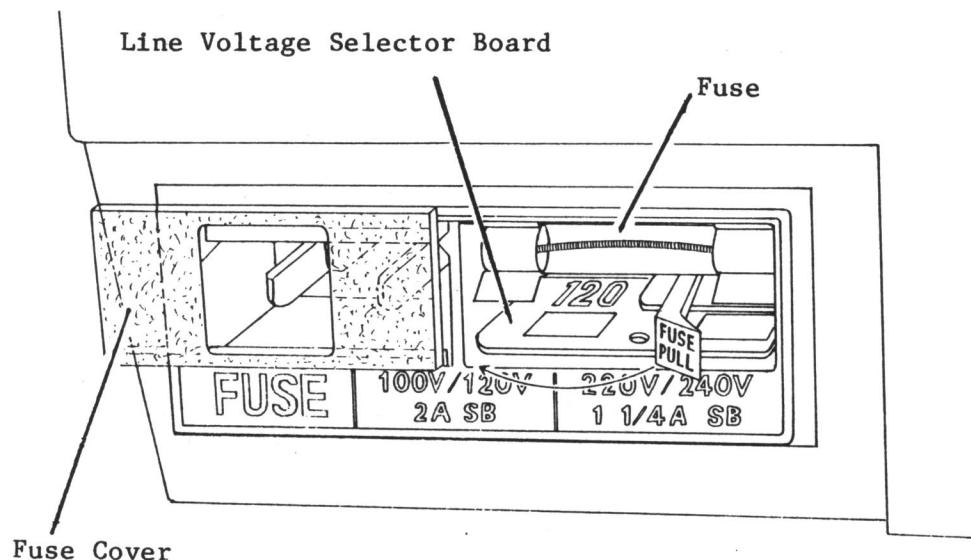

Figure 7-1
3. Slide the clear plastic fuse cover to the left as shown in Figure 7-1.
4. Pull the FUSE PULL lever out and to the left (see Figure 7-1).
2. Check the voltage number on the Line Voltage Selector Board (see Figure 7-1). This voltage should match the voltage of your system.